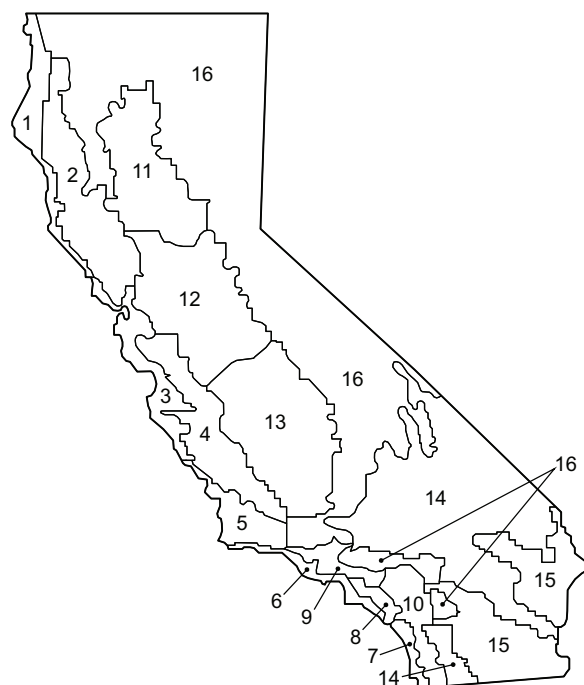

Fig. 94 — California Title 24 Zones
b. Refer to Fig. 94 for map of California Title 24 zones.